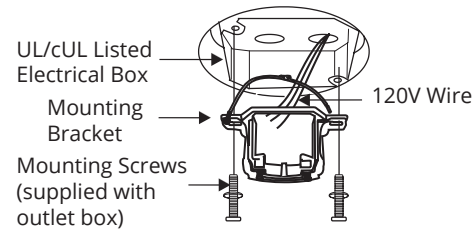

FIGURE 7
3. Pass the 120-volt supply wires through the center hole in the ceiling mounting bracket as shown in (Fig. 7).
4. Secure the mounting bracket to the ceiling outlet box with the screws and washers provided with your outlet box (Fig. 7).